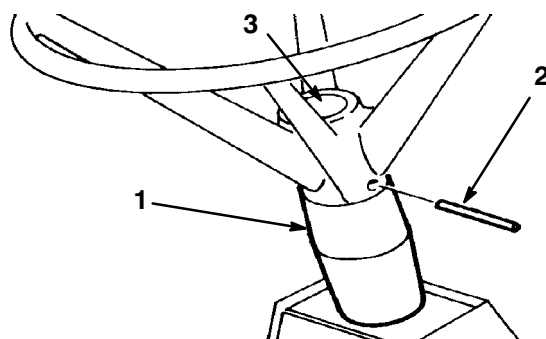

Figure 4
- Slip the steering wheel over the shaft and align the steering wheel mounting hole with the shaft mounting hole (Fig. 4). The Toro logo on the steering wheel insert should be readable from the operator's position.
- Drive the roll pin in until it is flush with the outside of the wheel (Fig. 4).